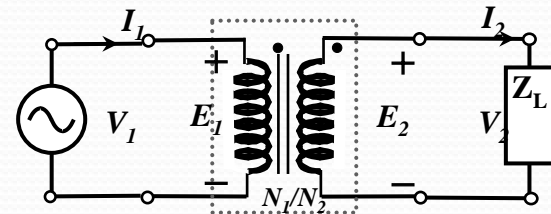

Figure 4.5 Schematic diagram of a transformer with polarity dots
- Transformer circuit of Figure 4.6(a) can be analyzed by using a simpler circuit shown in Figure 4.6 (b) which does not contain any transformer per se. This process of simplifying the circuit is called “*referring*” and Figure 4.5 (b) called the circuit of Figure 4.5 (a) referred to side 1 (primary).